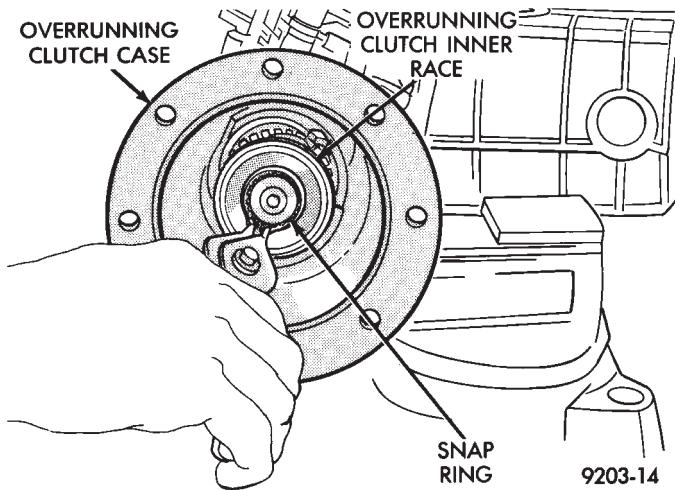

Fig. 5 Inner Race Snap Ring Removal
- (7) Remove overrunning clutch inner race snap ring (Fig. 5).